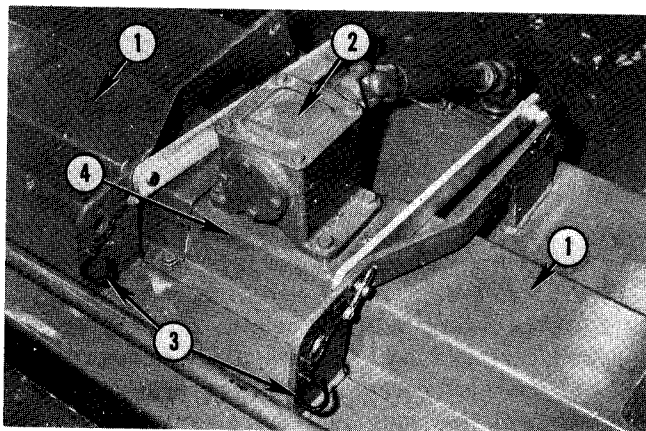
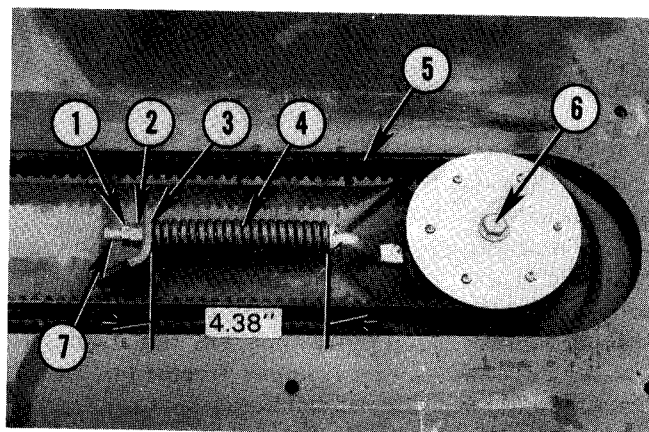
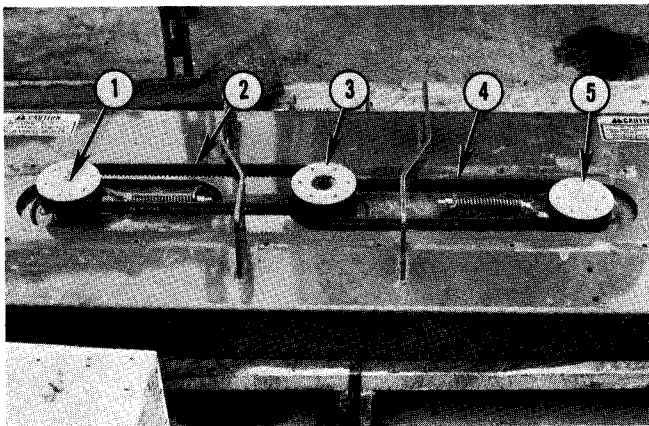

Fig. 62 — Belt Adjustment
Fig. 64 — Belt Adjustment
Fig. 65 — Belt Replacement
— FIGS. 62, 63 AND 64
1. Remove belt covers, No. 1, Fig. 62, and measure length of spring, No. 4, Fig. 64. If measurement is not 4.38" adjustment is necessary.
4. Loosen nuts, Nos. 1 and 2, Fig. 64, completely which will allow springs, No. 4, to move spindles outboard to tension belts.
BELT REPLACEMENT — FIGS. 62, 63 AND 64
2. Remove belt covers and remove bolts securing gearbox mounting bracket, No. 4, Fig. 62, to mower and lift bracket and gearbox off. Gearbox output shaft is a slip fit in timing belt pulleys, No. 3, Fig. 65.
NOTE: When reinstalling the gearbox extreme care should be taken to insure that the splined shaft of the gearbox is a free sliding fit in the center pulleys, No. 3, Fig. 65. The gearbox mounting bracket, No. 4, Fig. 62, is slotted to allow the gearbox to self center.